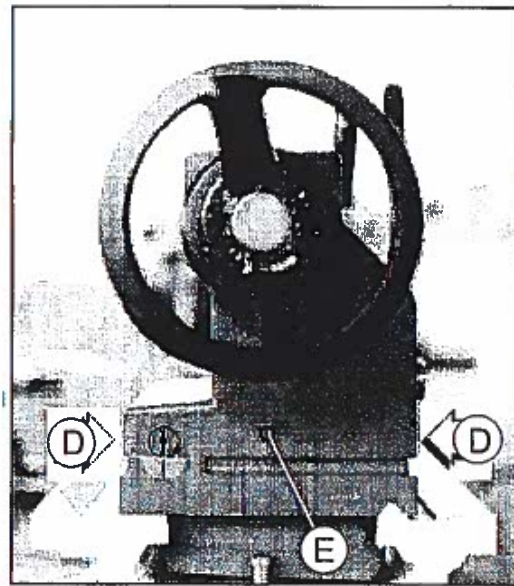

Fig. 15
Set over adjustment is achieved by unclamping tailstock lever (A) and nut. Slacken rear location screw (E) one turn (Fig. 15). Adjust screws (D) at each side of base by slackening one and tightening the other to laterally move tailstock across the base. Re-tighten the rear location screw.